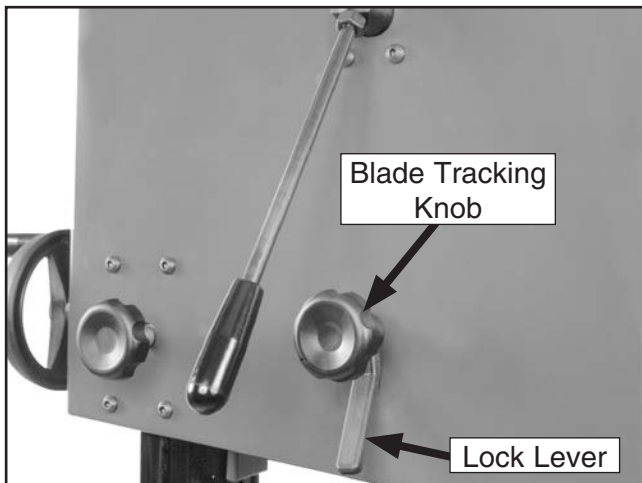

Figure 19. Blade tracking controls.
5. Loosen the lock lever shown in **Figure 19** so that the blade tracking knob can rotate.